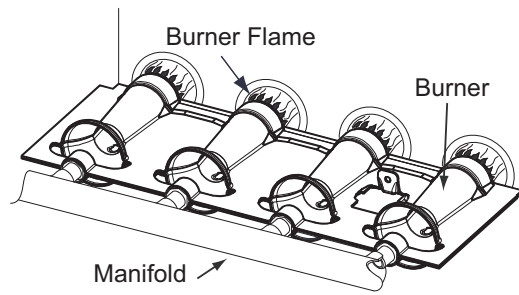

Fig. 65 - Burner Flame
8. Reverse items 6 through 1 for reassembly.
11. Check furnace operation through 2 complete heat operating cycles. Look at burners. Burner flames should be clear blue, almost transparent. See Fig. 65.